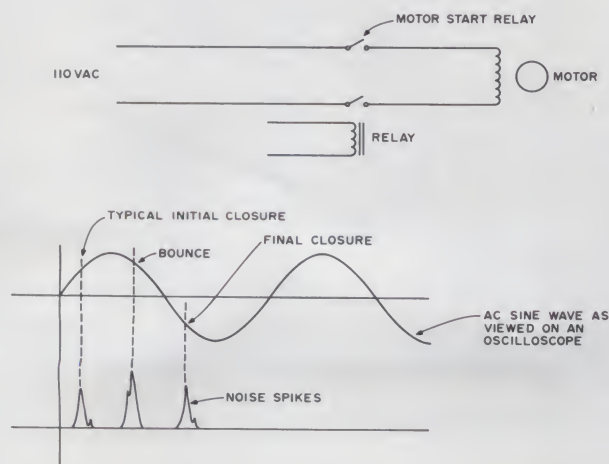

Fig. 1. As the motor started . . .
2) What was really happening was this: (see Fig. 1).